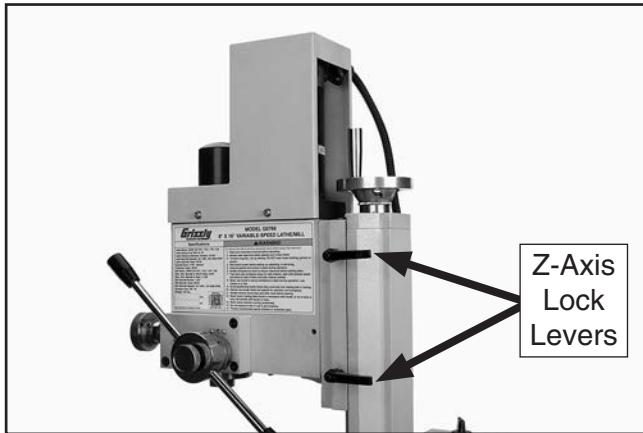

Figure 104. Location of Z-Axis lock levers.
2. Loosen both Z-axis lock levers shown in **Figure 104**.